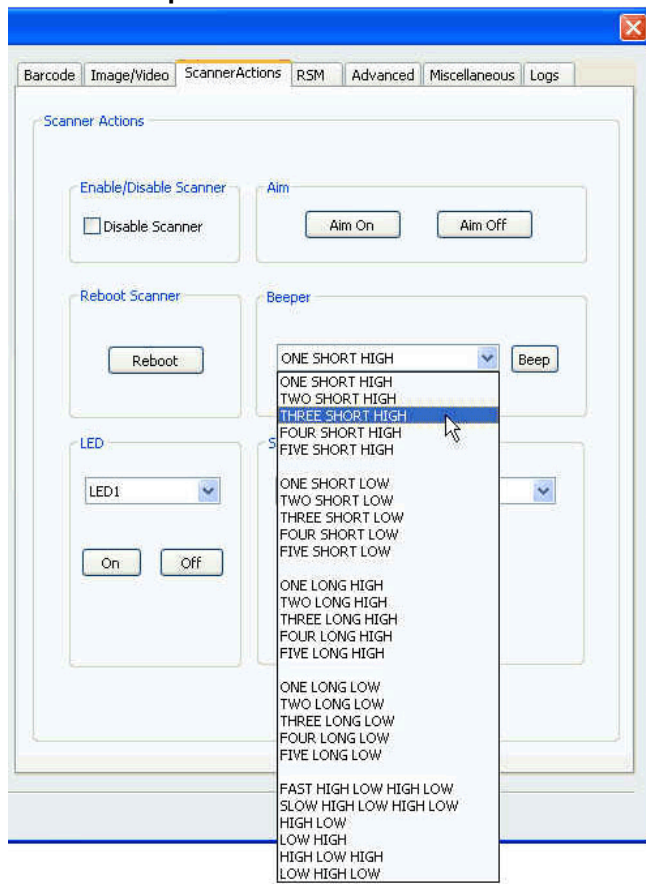

Figure 4-8 Beep Values
3. Select the desired beep sequence from the list defined on the *Scanner Actions* tab as shown in Figure 4-8.